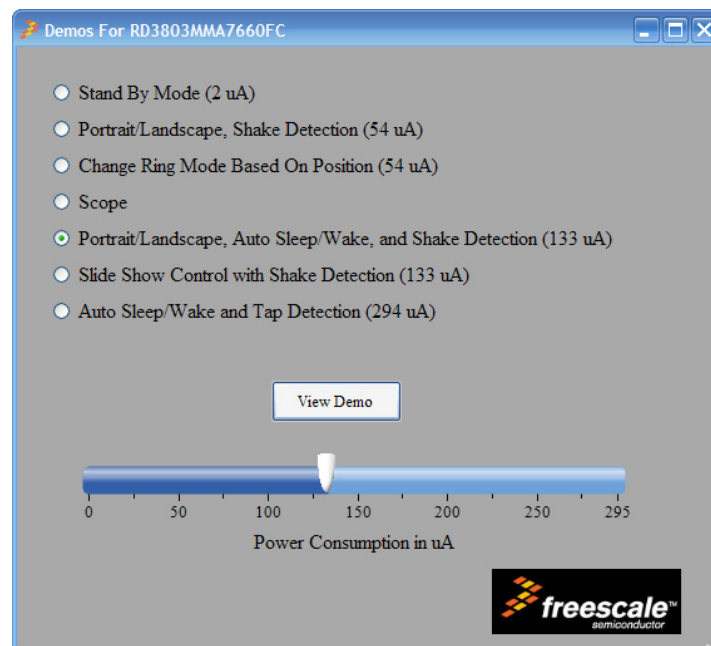

Figure 9. Demos for RD3803MMA7660FC
3. The “Demos for RD3803MMA7660FC” screen will appear (Figure 9). The following section will describe in detail all the demos available on the GUI.